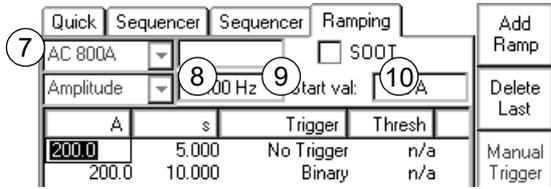

Figure 9-16: Step 2 - Set the ramp parameters
- ⑦ Turn the handwheel to set the focus onto the ramps table's first cell; in Figure 9-16 above it is the output current. Then press the handwheel. The cell turns into an entry field. Now set the output current value of your choice by turning the handwheel, or use the number keys of the *CPC 100* soft-touch keyboard. Press **Enter** or the handwheel to acknowledge your setting and move to the next table cell by turning the handwheel.